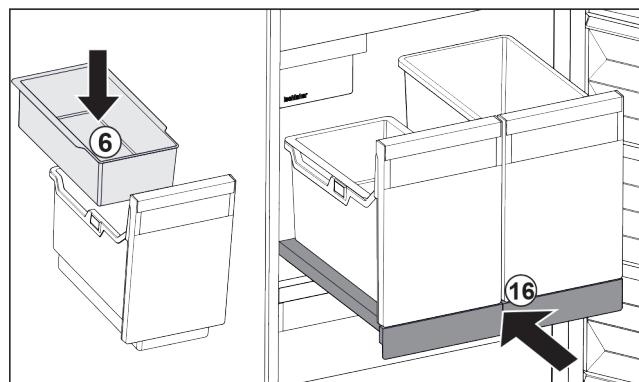

Fig. 103
- ▶ Insert hang-on tray *Fig. 103 (6)* for ice cubes.
- ▶ Slide in the pull-out board with (IceTower) container. *Fig. 103 (16)*